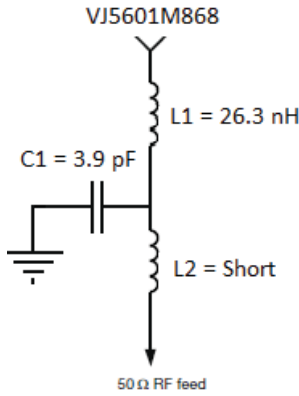

Fig. 1 - Tuning Example with Inductors L1, L2 and Capacitor C1
(1) See figures 1 through 6 for more details on the radiation pattern (antenna gain) at 868 MHz; the PCB board ground is shorted to earth ground for tuning.